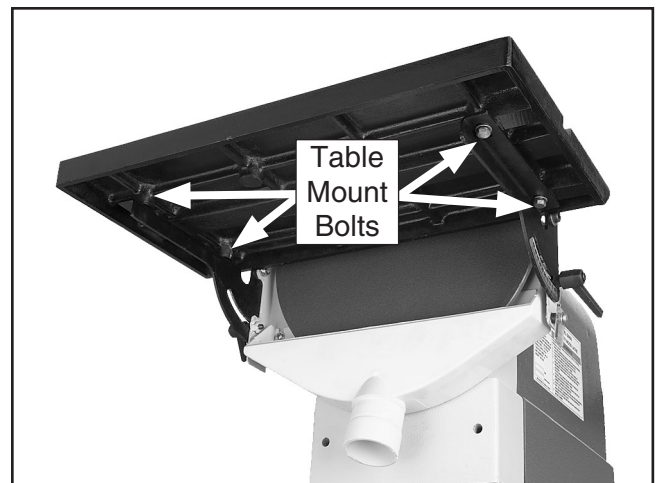

Figure 53. Table mount bolts.
1. Loosen the table mount bolts (**Figure 53**) that secure the table to the table support bracket.